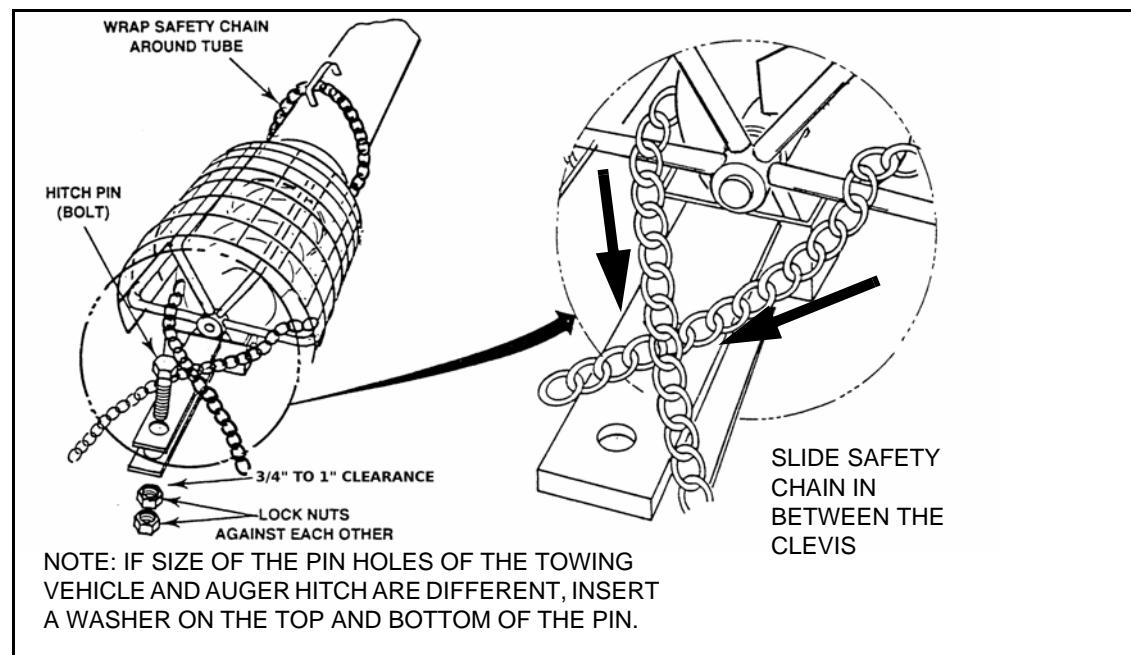

Figure 4.1
**Important:** Use a type of hitch pin (see Figure 4.1) *with a load rating* that at least matches the carrying capacity of the towing vehicle.
5. Thread the safety chain through the handle on the lower tube, wrapped around the auger and slipped through the clevis (see Figure 4.1) before securely attaching to the towing vehicle. Leave chain slack enough for angular movement.
**Important:** Use a type of hitch pin (see Figure 4.1) that will not allow auger to separate from towing vehicle.